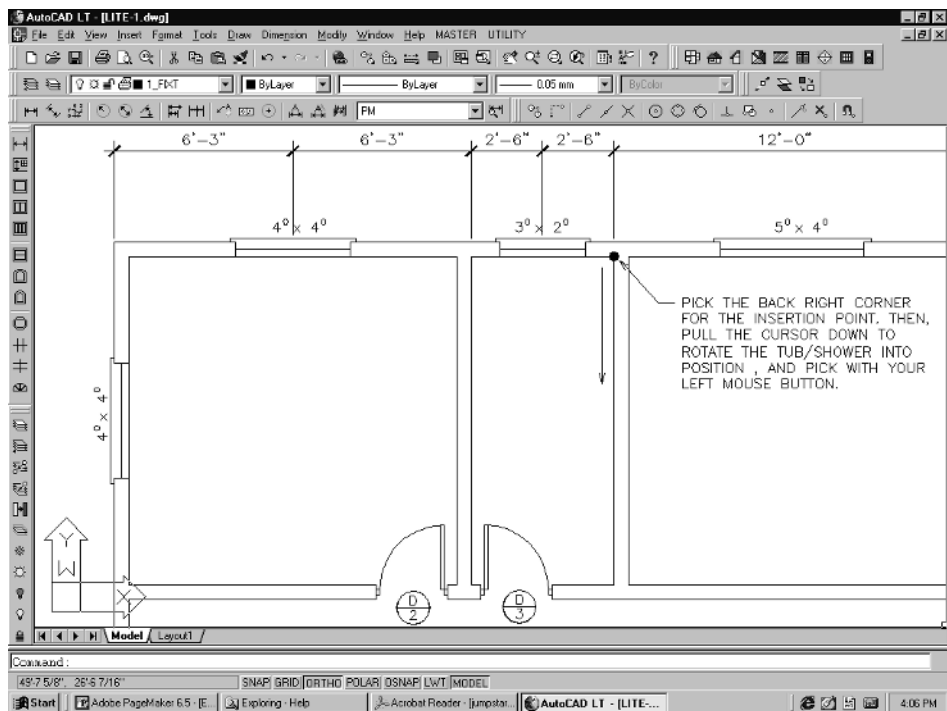

Figure 6-41
2. Pick the back right corner for insertion. If your snap is not on, use your Endpoint Osnap to get the corner. Now, pull the cursor around to align the tub with the wall and then pick. See Figure 6-41.